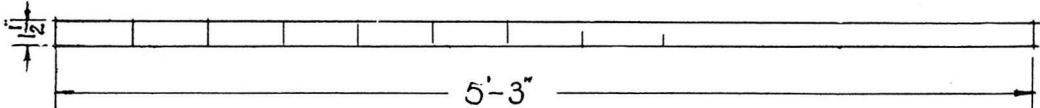

Fig. 2 SPACING POLE
8. A carpenter divided a spacing pole 5'-3" long, into 12 equal spaces. How long was each space? See Figure 2.
9. If the spacing pole shown in Figure 2, was 7'-0" long, and was to be "laid off" in spaces $4\frac{5}{8}$ " long, how many spaces would there be?
11. If the spacing pole in Figure 2, is 6'-4" long, and is laid off in spaces $4\frac{3}{4}$ " long, how many spaces would there be?